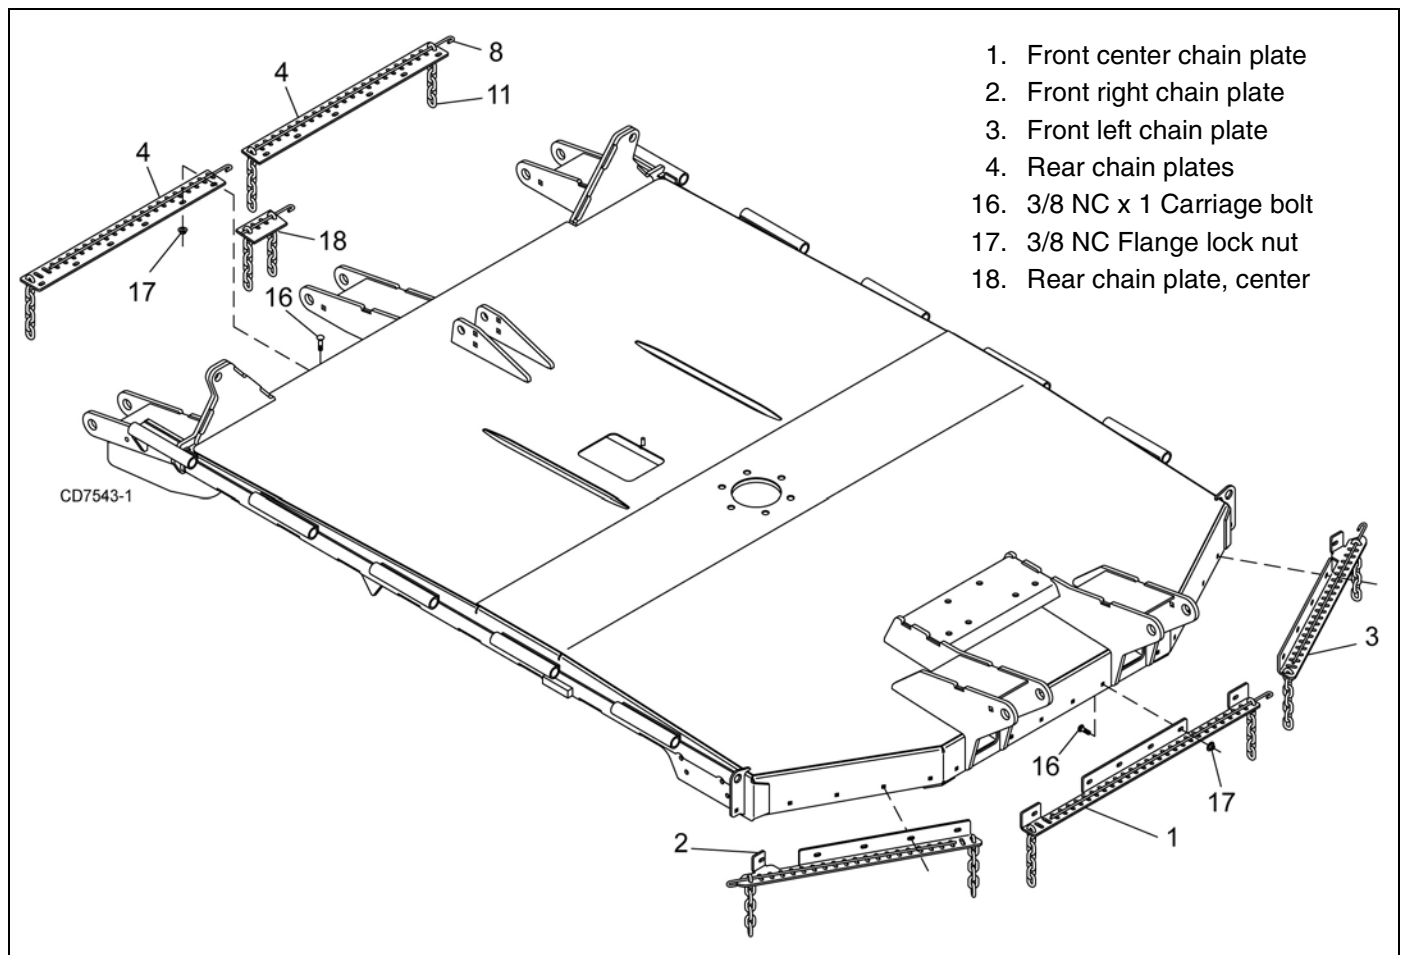
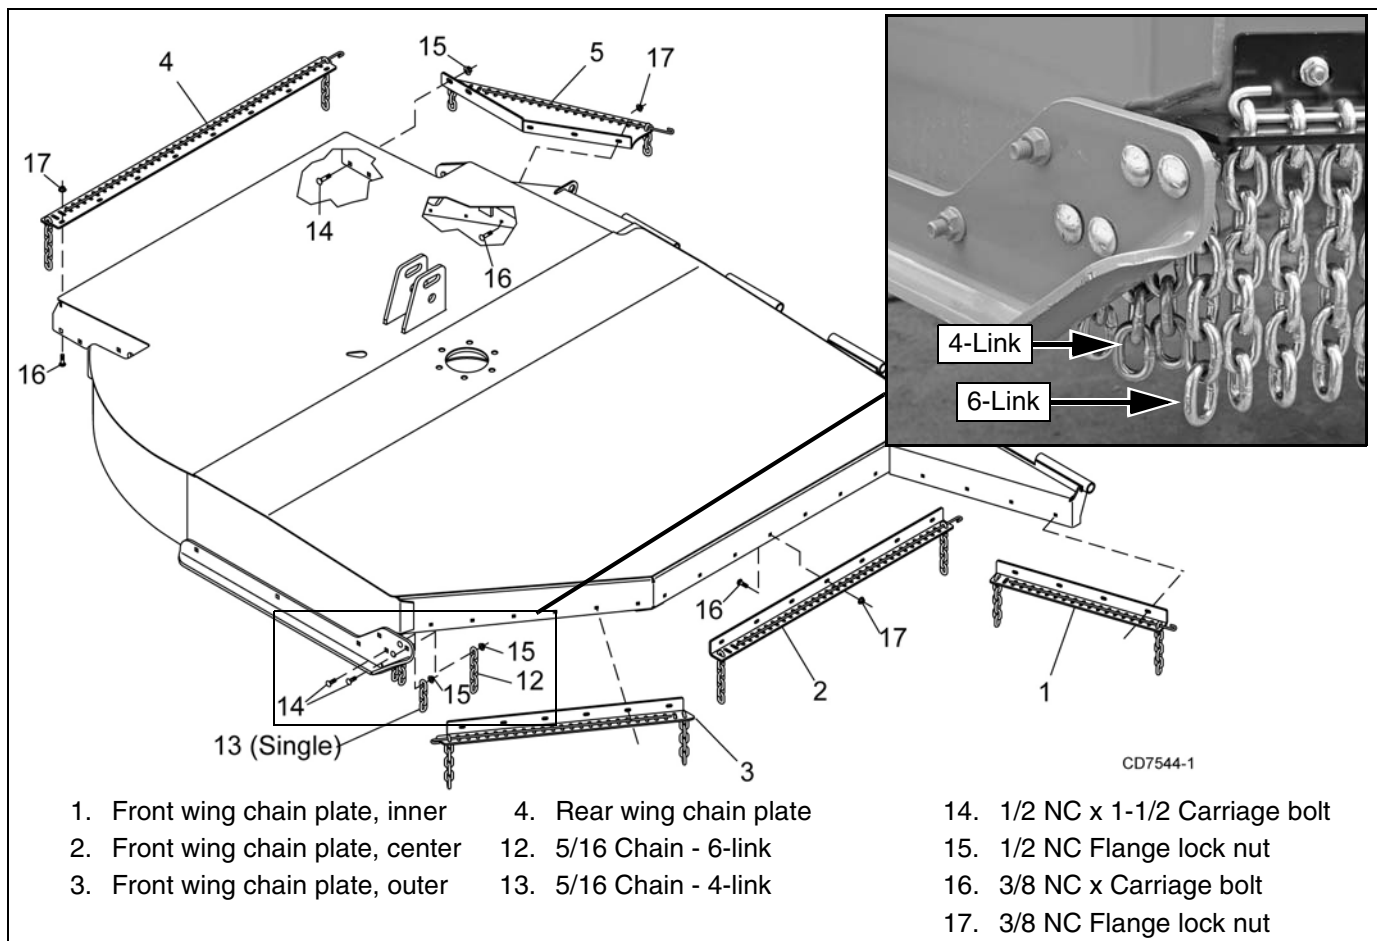
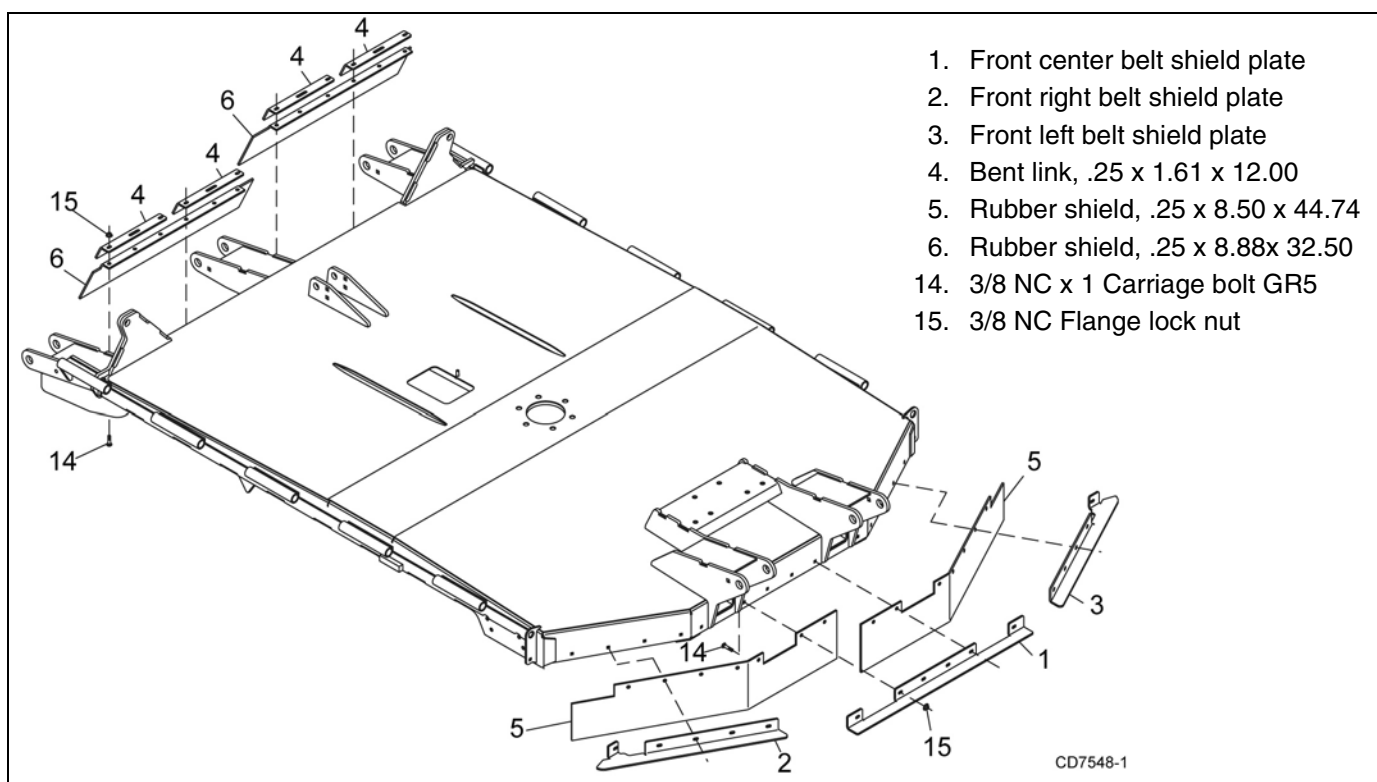
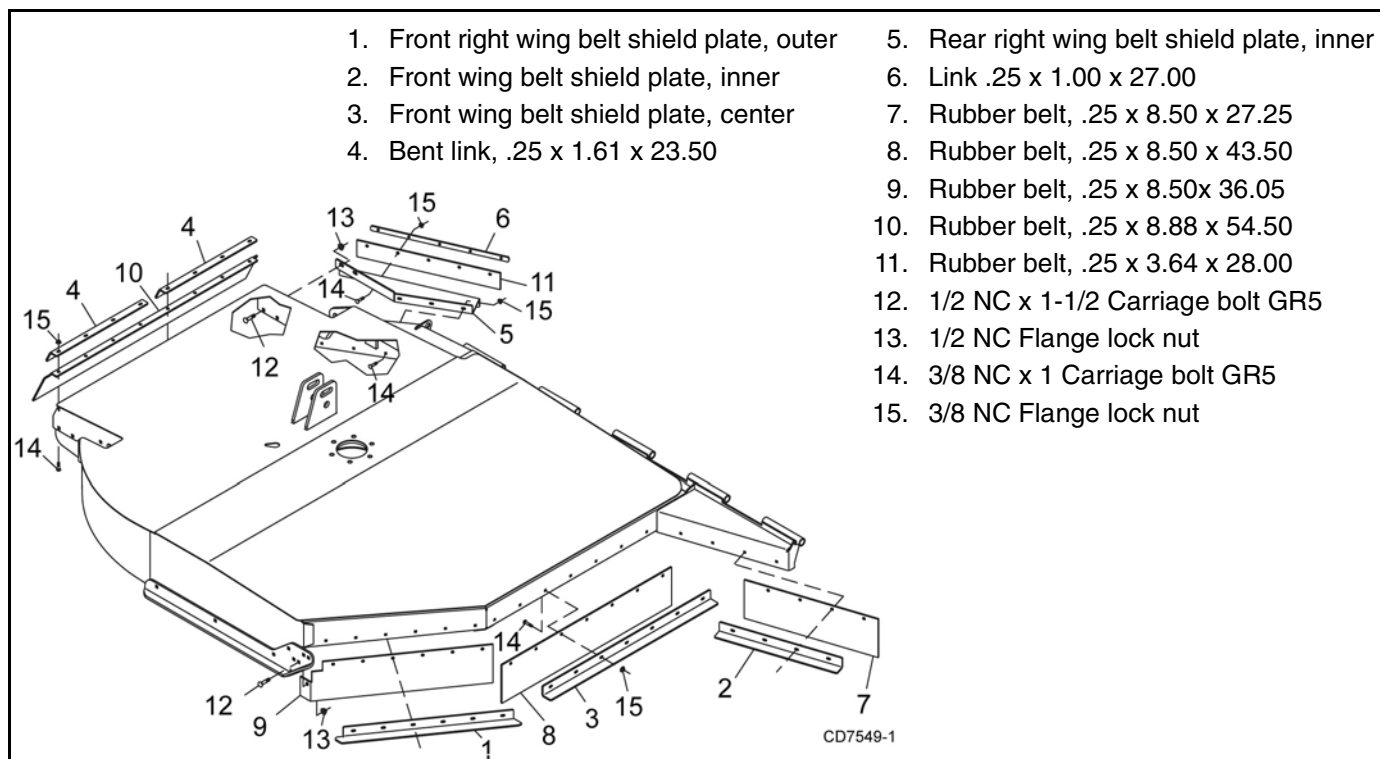

Figure 34. Chain Shielding Installation - Center Section
Figure 35. Chain Shielding Installation - Right Wing Shown
Figure 36. Belt Shielding Installation - Center Section
Figure 37. Belt Shielding Installation - Right Wing
Install chain and rubber shields with hardware as shown. (Refer to Figure 34 and Figure 35 for Chain Shielding Installation; Figure 36 and Figure 37 for Belt Shielding Installation.)
NOTE: CHAIN SHIELDING - Center Section: Attach rear chain plates (4) to the top of center section. Attach center chain plate (18) to the bottom of the center section. **Wing:** Install four (two per wing) 6-link chain sections (12) and four (two per wing) 4-link chain sections (13) to the wing skid shoes. Secure with carriage bolts (16) and flange lock nuts (17). See Figure 35.